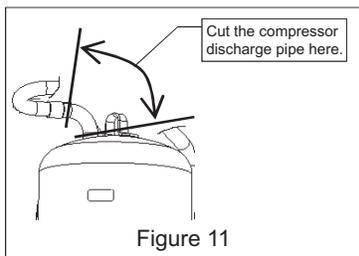

Figure 11
(11) Remove the compressor discharge pipe by cutting the pipe where indicated in Figure 11 or by removing the braze.